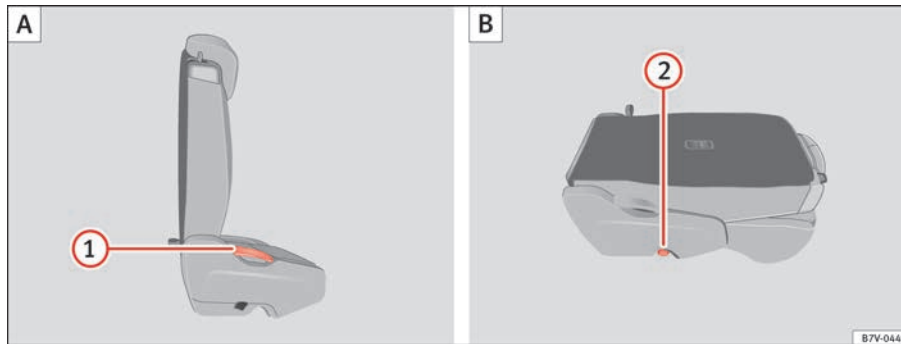

Fig. 89 Second row of seats: folding the rear seat (A), rear seat as load space (B).
- Remove objects from the footrest area in front of and behind the rear seat ⇒ ①.
- Pull lever ⇒ fig. 89 ① back and fold the backrest forwards. The complete rear seat folds forward ⇒ ⚠.
- Pull lever ⇒ fig. 89 ① upwards and place the backrests in vertical position. The entire seat folds backwards.